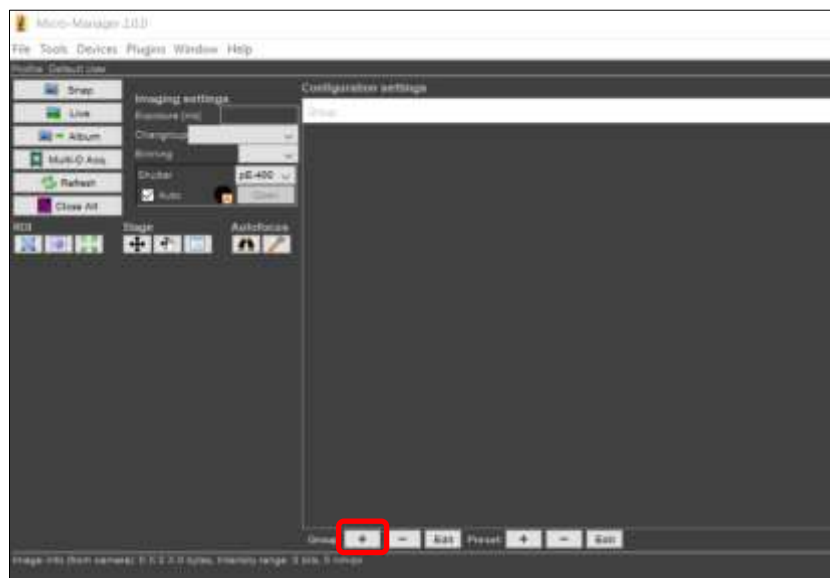

Figure 12: Adding a new Group (circled in red)
1. Create a 'Group' by clicking the Group '[+]' icon on the main screen (see Figure 12, circled in red).
6. To control channel intensity, create a new Group by clicking the Group '+' icon on the main screen (see Figure 12, circled in red).